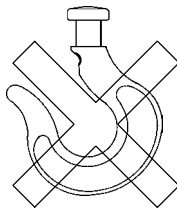

Fig. 7
- Do not remove the safety latch from the top or bottom hooks (Fig. 7).